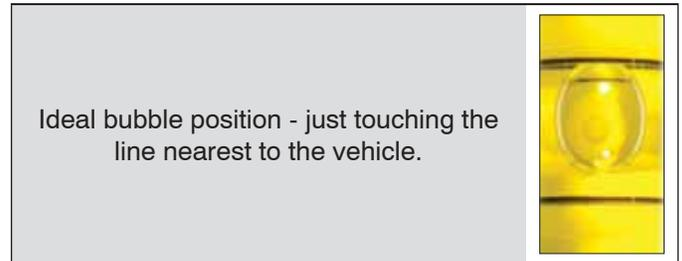

FIGURE 31 - USING THE BUBBLE POSITION TO CHECK THE VERTICAL ALIGNMENT (VEHICLE ON LEVEL GROUND)
Where the bubble-level may be used, verify that the bubble just touches the line nearest the vehicle. This shows that an incline of approximately one half of a degree downward has been set. See Figure 31.
2. With the Bendix alignment tool still in place, loosen the four vertical position screws. DO NOT remove these screws. See Figure 31. During the adjustment, turn the vertical alignment screw clockwise or counterclockwise depending on the vertical direction (up or down) needed. Clockwise aligns the radar sensor up and counterclockwise moves the radar sensor down.
In cases where a digital inclinometer is not being used, the adjustment should be made until the bubble is just touching the line closest to the vehicle (See Figure 31.)